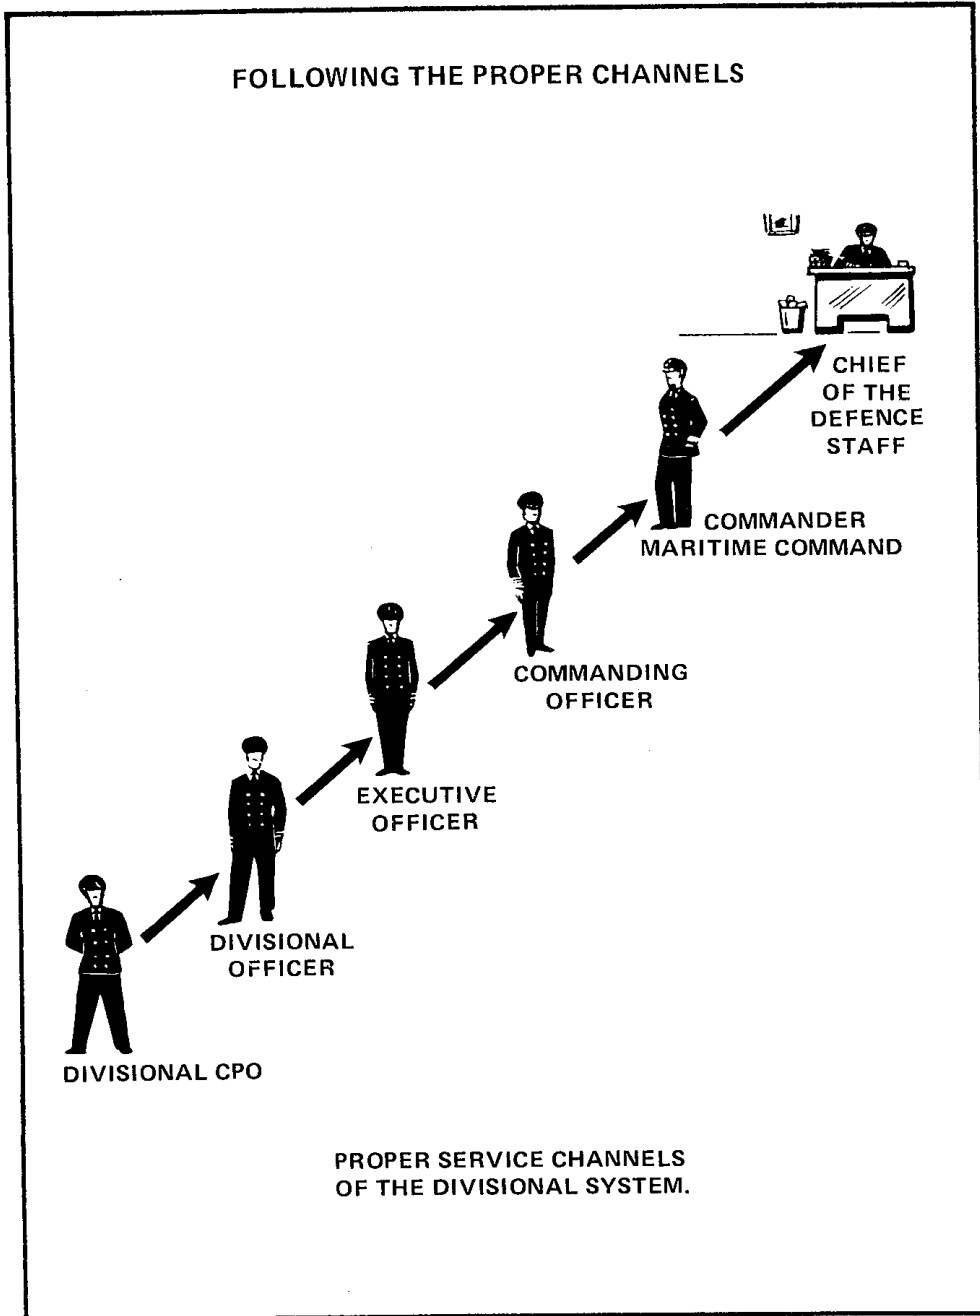

Figure 9-6 Following the Proper Channels
27. **Following the Proper Channels** — If the Divisional Officer cannot solve a problem or grant a request, he may bring a man before the Executive Officer, who, in turn, may bring the man before the Commanding Officer. The Commanding Officer, if he sees fit, may pass the matter on to the Squadron Commander and if necessary to the Commander, Maritime Command and the Chief of the Defence Staff. This routine is known as following the proper channels. If he so desires, every man is entitled to see his Commanding Officer, provided he goes through the proper divisional channels. See Figure 9-6.